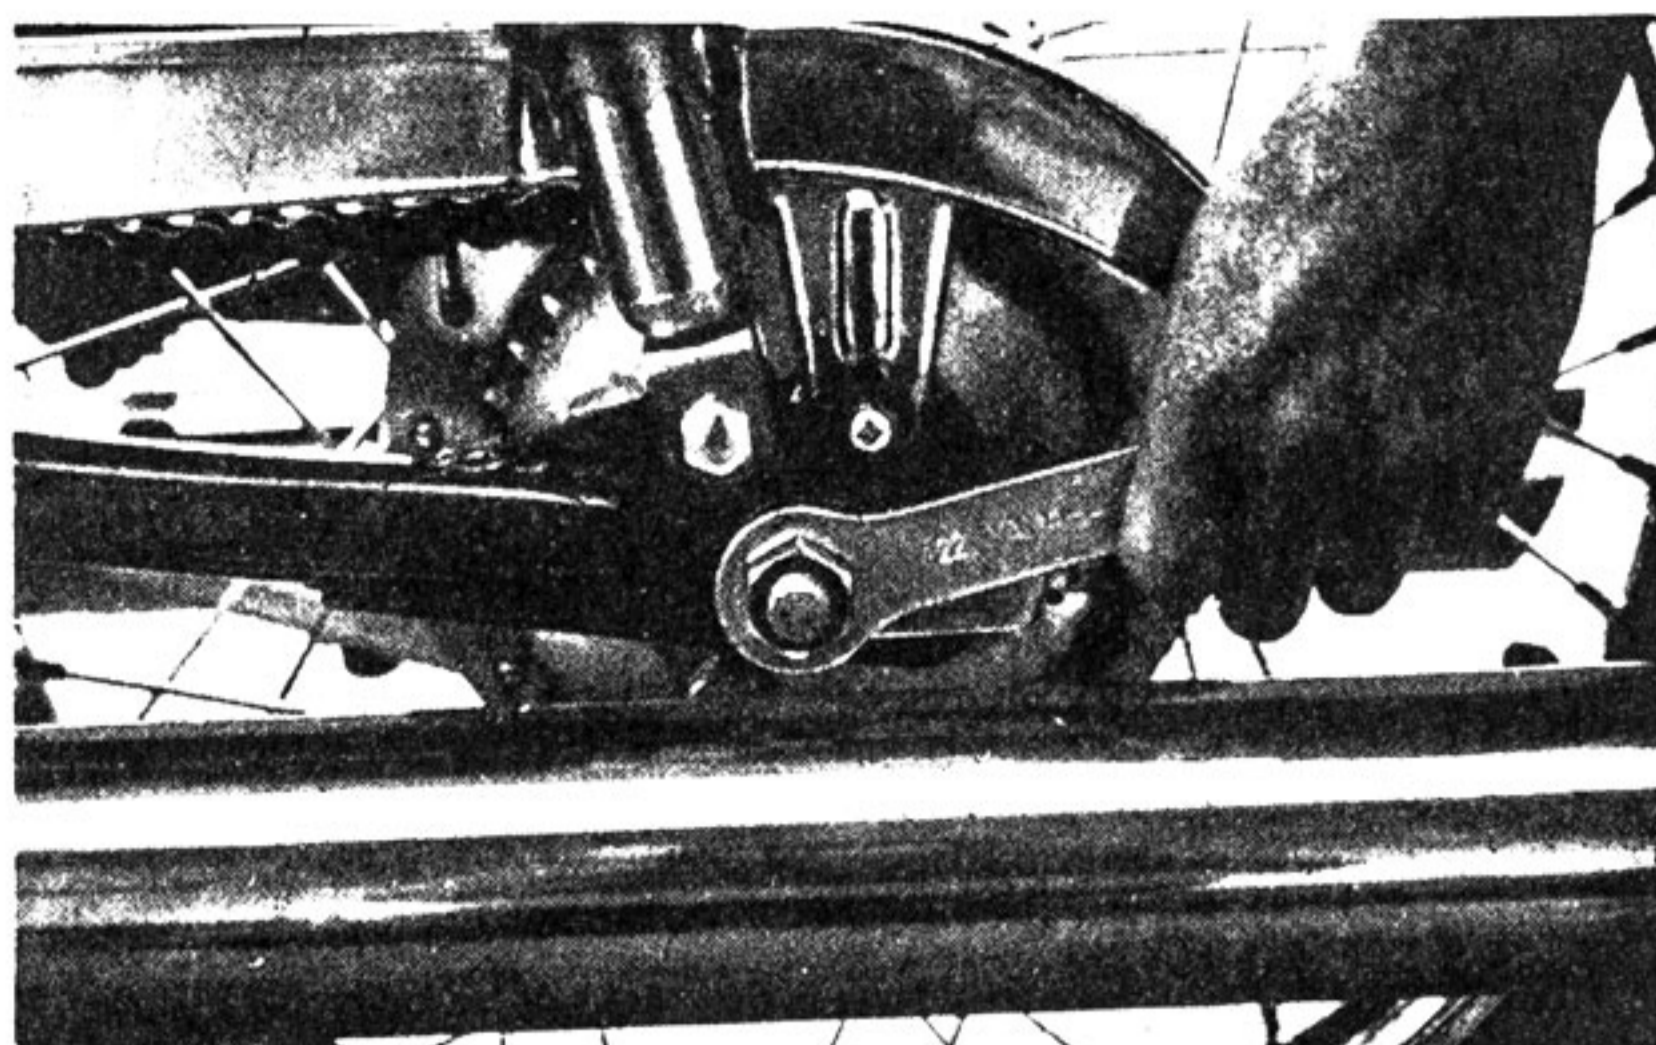

Fig. 5-2-5
(2) Remove the rear wheel shaft nut, and pull out the shaft. (Figs. 5-2-5- and 6)